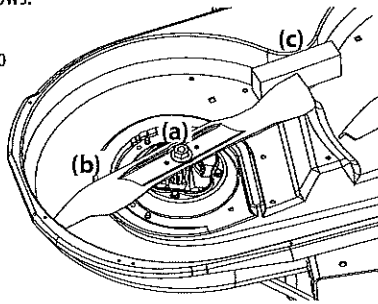

Figure 50
2. Use a $1\frac{5}{16}$ " wrench to hold the hex nut on top of the spindle assembly when loosening the hex nut (a) securing the blade (b). A block of wood (c) may be placed between the deck housing and the cutting edge of the blade (b) to help in breaking loose the hex nut (a) securing the blade. See Figure 50.